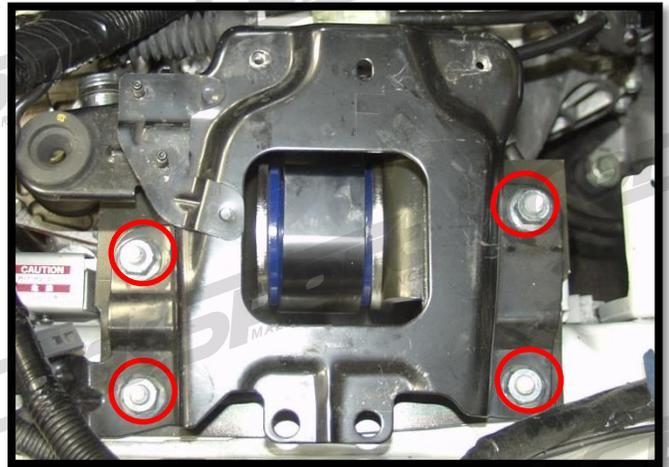

Figure 5d
- e) Replace the black metal battery box bracket removed in step 4b. Thread on the four (4) 17mm nuts (red circles) and tighten down with a 17mm socket wrench with extension (Figure 5d). Torque to 33-44ft-lbs.